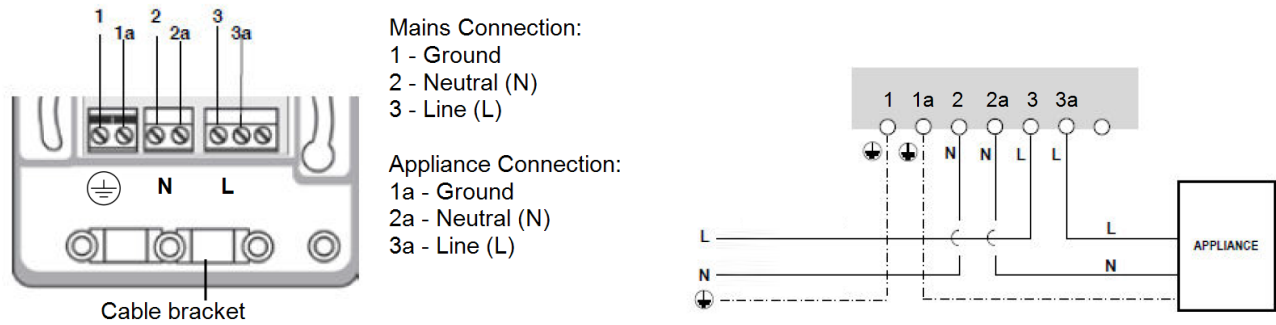

Figure 2: AC Switch connections
5. Connect the load wires to the terminal blocks (see Figure 2).